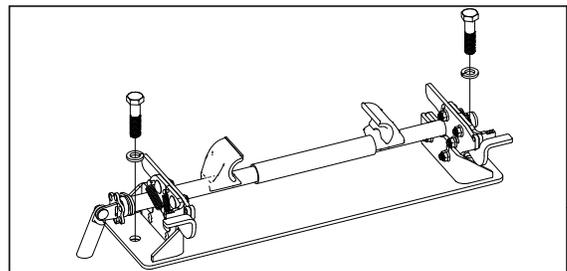
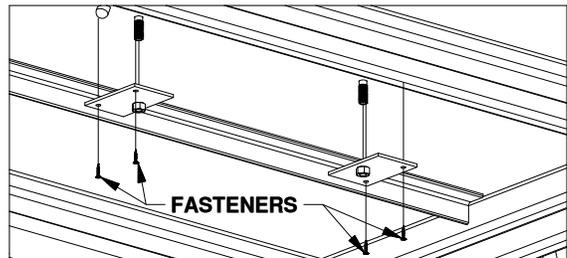

Figure B3: View looking at biker bar base.
Figure B4: View looking up at bottom of trailer.
6. **Secure the base.** Place the base over the holes and insert the 5/8" bolts as shown in figure B3. Thread the anchor plates onto the bolts with the nuts down as shown. With the face of the anchor plates flush with the floor, secure the anchor plates to the bottom side of the trailer with bolts or wood screws using the holes provided, see Figure B4. Tighten the two 5/8" bolts securing the base to the floor.